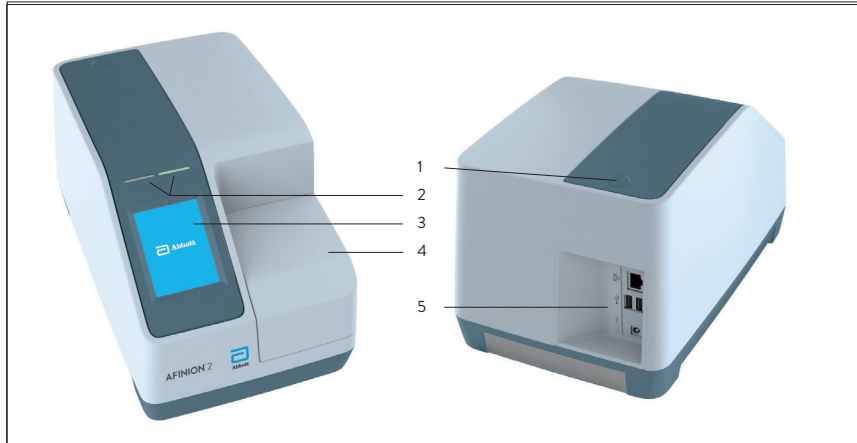

Figure 1
Figure 1 shows the main exterior parts of the Afinion 2 Analyzer.
- 1  Switch on the analyzer by pressing the ON/OFF button (Figure 1). An automatic start-up procedure will be initiated. Please wait. Do not open the lid manually.
Switch off the analyzer by pressing the ON/OFF button (Figure 1). The analyzer should be switched off after the end of a working day.